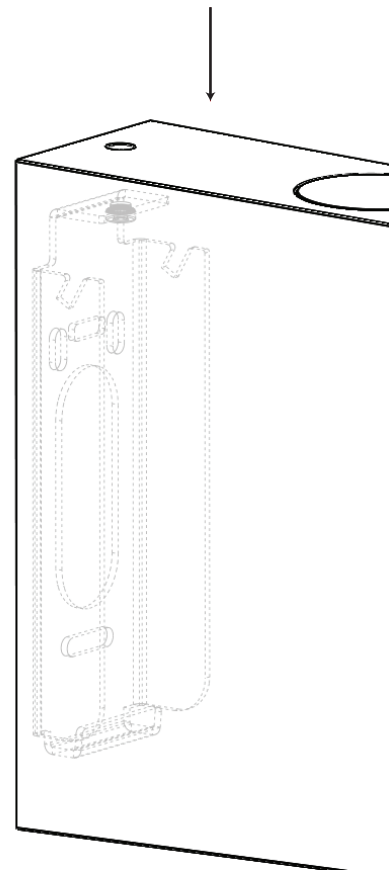

Fig. 5
5. Carefully slide fixture down to mate the fixture to the bracket - see Fig. 5.